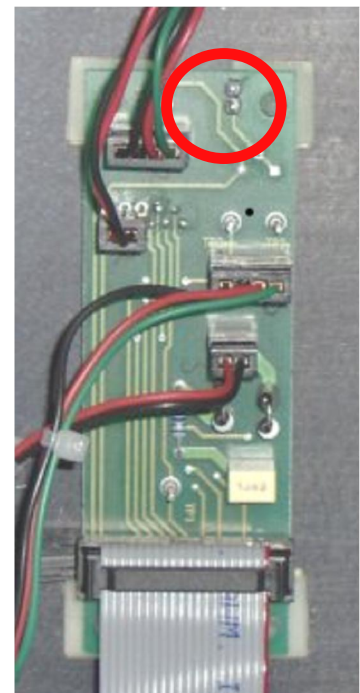

FIG 6.5
- Remove the jumper, see Figure 6.5.